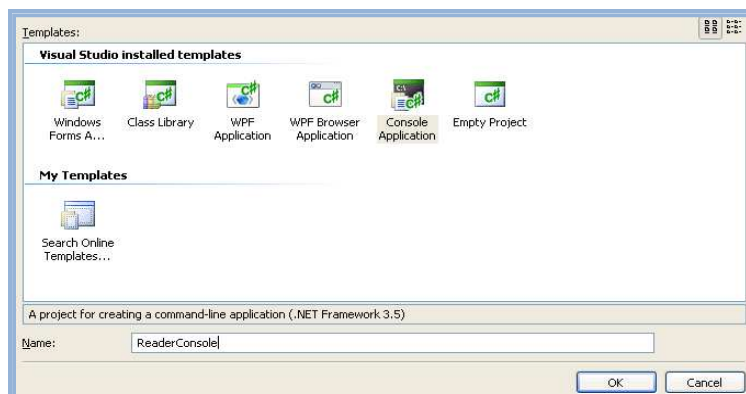

Figure 3 Visual Studio New Project Dialog Box
- Right click on the desired program file (xxxxx.cs) and then select View Code to view the code for each project. See Figure 3.